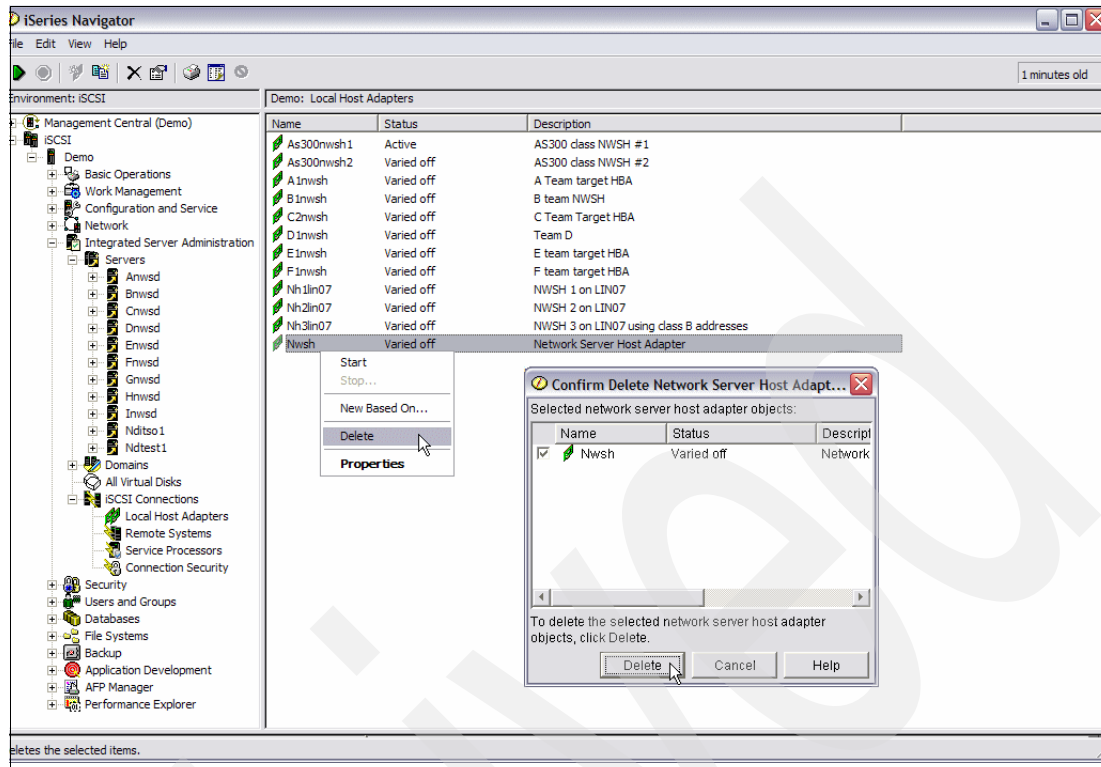

Figure 6-11 Delete Network Server Host Adapter
- On the Confirm Delete Network Server Host Adapter window, select **Delete**. See Figure 6-11 on page 163.